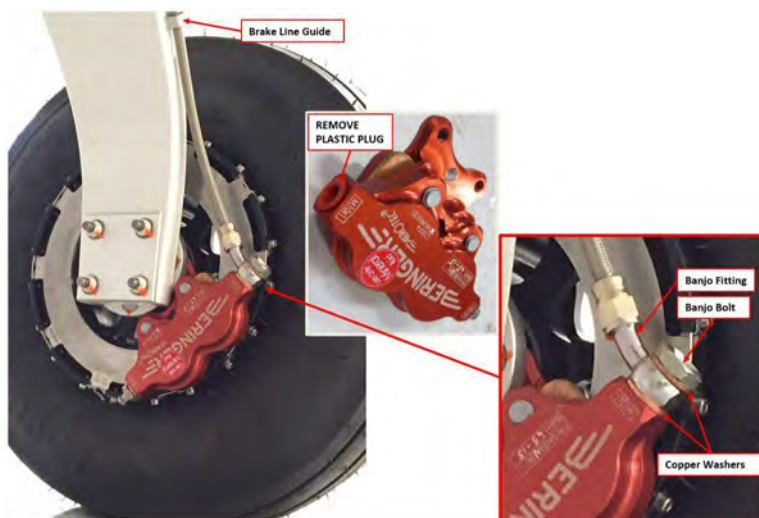

FIGURE 15-10
10. Connect the banjo fitting end of the brake line to the caliper, routing the line in a natural way up through the MLG leg guides. Do not put a twist in the line. Use a HYD-003P Banjo bolt and two HYD-005B copper washers as shown in Figure 15-10. Torque the Banjo bolt to 140 in-lb_f and then torque an additional 90° of rotation.